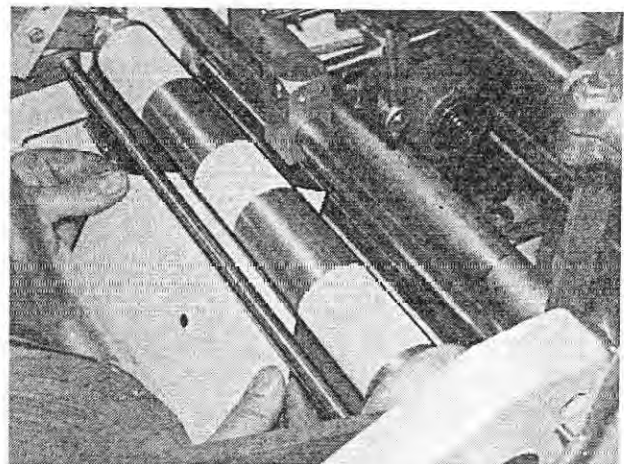

Fig. 100
14. Thread the wrapper between the predisposing rolls (Figure 100).